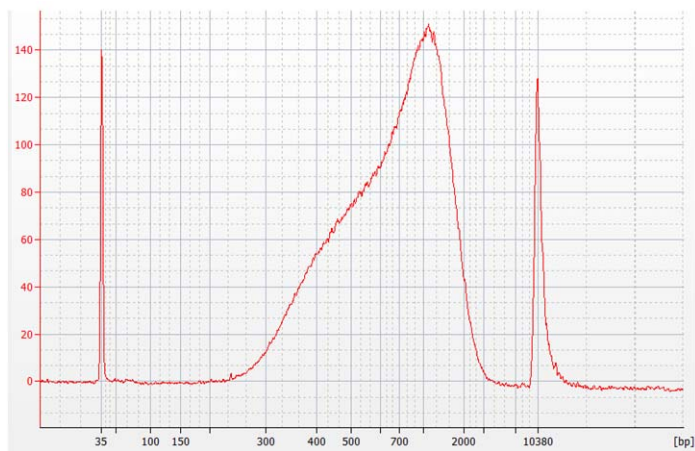

Figure 5 Analysis of amplified library DNA using a High-Sensitivity DNA Assay.
Do not use Agilent's DNA 1000 Assay to analyze the whole genome samples. The expected distribution of whole genome library fragment sizes is not compatible with the DNA 1000 Assay. See Figure 5, below, for a sample electropherogram.
- Typical whole genome library electropherograms show a broad distribution of DNA fragments. A sample electropherogram is shown in Figure 5.